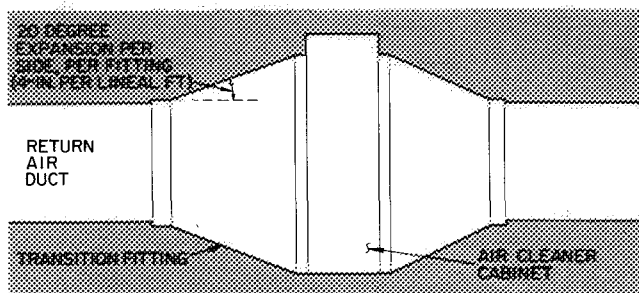

Fig. 4 – Transition from Smaller Ducts
5. Return air duct should use full cabinet opening. Run duct straight into unit. Use an elbow with turning vanes if duct takes a sharp turn close to air cleaner inlet. *Do not baffle off any portion of entering air side of air cleaner* When it is necessary to change duct size close to the air cleaner, use gradual transitions to reduce turbulence. See Fig. 4.